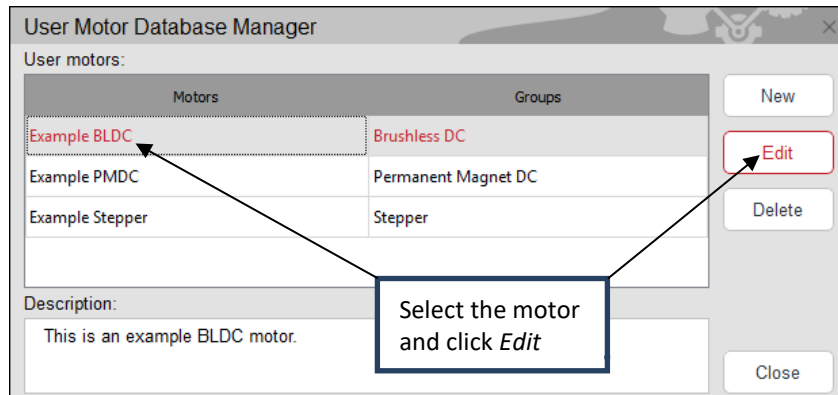

Figure 66: Edit Motor
- Open the *User Motor Database Manager* window and select the motor to be edited and click *Edit* as shown in Figure 66.